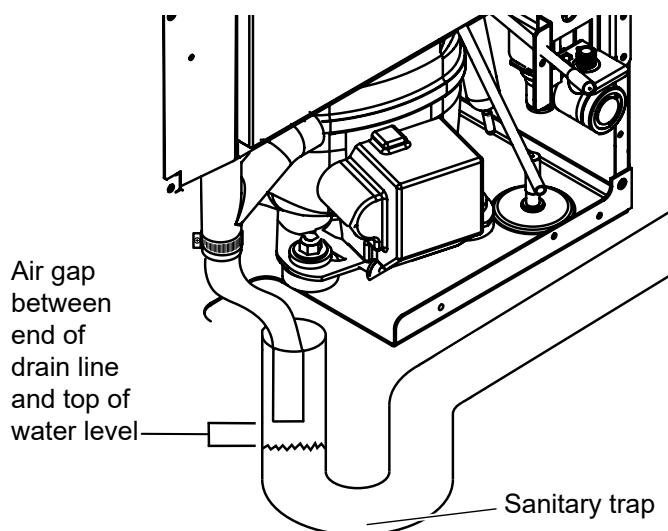

Figure 17: Example of an open drain.
- b. Your drain line is plumbed into an open drain (Figure 17).